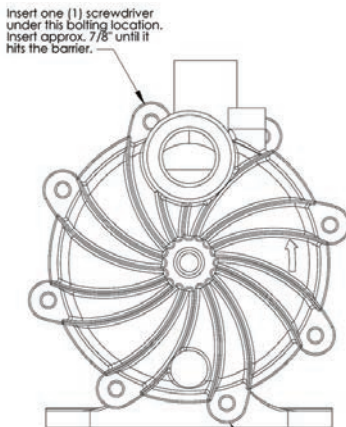

Figure 14
- Remove the housing by carefully inserting two flat head screwdrivers at the locations shown in figure 14. Slide the screwdrivers in at the bolt holes between the metal clamp ring (item 12B) and the housing until they stop. Applying equal pressure, gently pry both screwdrivers in an upward motion away from the work bench (to avoid damaging sealing surface on the housing). See figure 14A. Housing is tight due to o-ring seal on the internal “gooseneck.” NOTE: Do not twist the screwdrivers or damage may occur to the housing. Lift the housing straight up to remove.